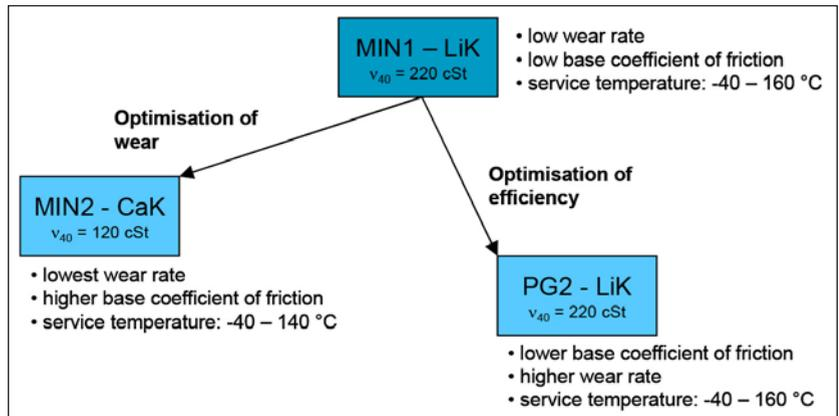

Figure 9 Potential for optimization.
- Regarding the broad variety of lubricants that were subject to investigation (Ref. 7), grease MIN1 (LiK) happens to be a good compromise between wear and efficiency (Fig. 9)